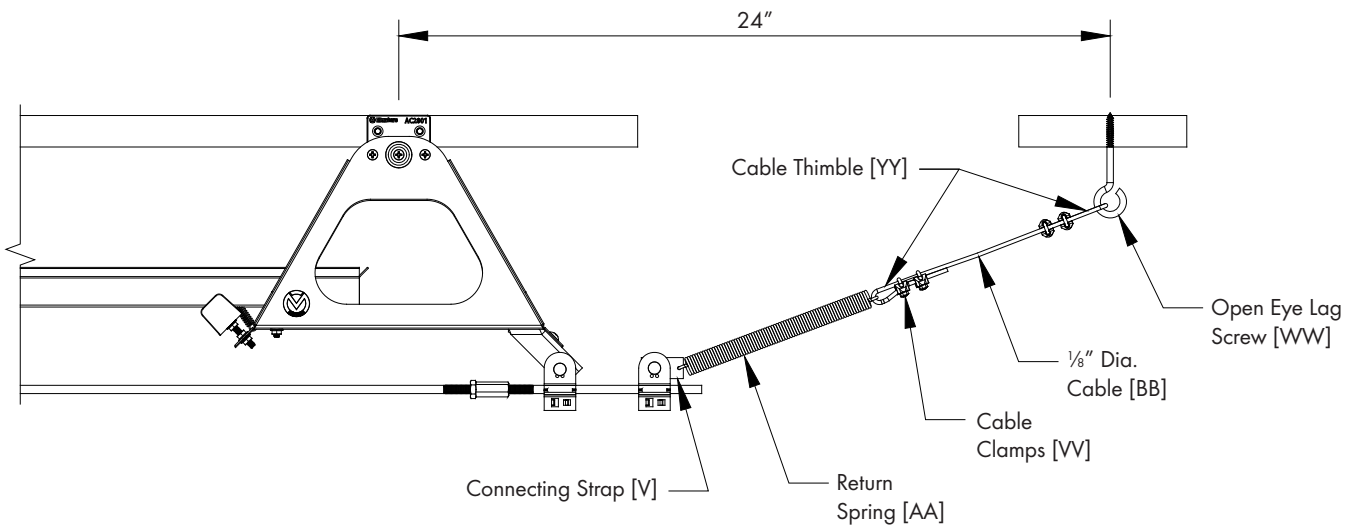

Figure 26
On the far end of the system install (1) Open Eye Lag Screw [WW] to the ceiling or other framing 24" from the last Lift Point. Attach the hook end of the Return Spring [AA] to the Connecting Strap [V]. Then attach a section of 1/8" dia. Cable [BB] to between the loop end of the Return Spring and the Open Eye Lag Screw [WW]. See Figure 26. When the Pivot Air is in the open position, the Return Spring/Cable should be taut, so that when the Pivot Air closes there is tension on the spring.